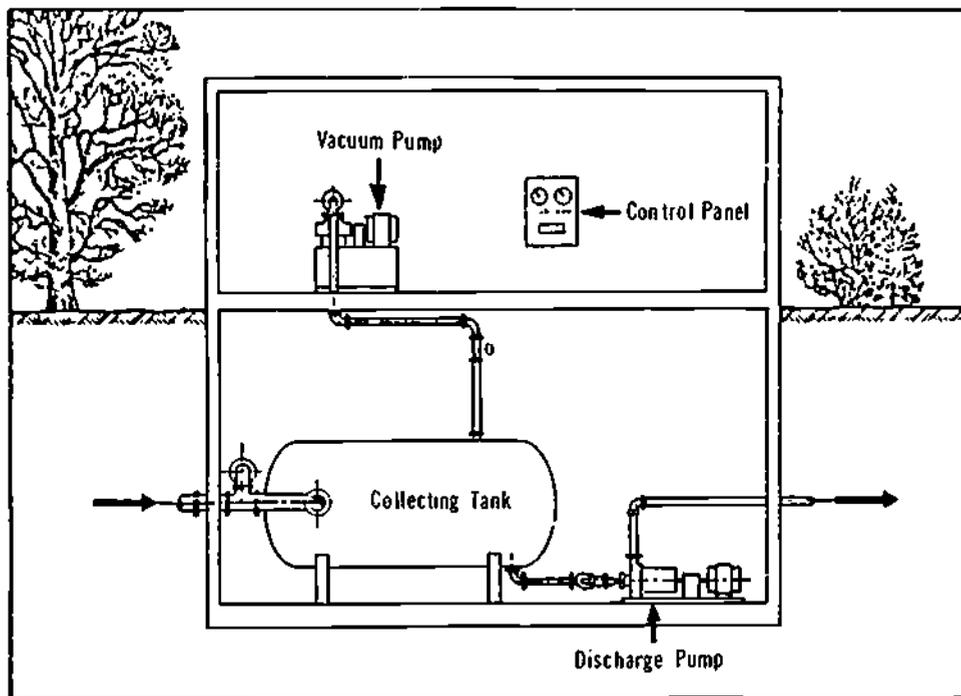

Figure 37-36. The Collecting Station
- The collecting station, to create vacuum and to receive and discharge sewage (Figure 37-36).
107. The vacuum network transports sewage from various interface units to the central collecting station. (See Figure 37-36.)
108. A central collecting station, which may serve an area of up to 8 km in diameter, houses a vacuum pump(s) to maintain vacuum, a collecting tank(s) to collect sewage from the vacuum piping network, and a discharge pump(s) to transfer sewage to a treatment plant, gravity sewer, or force main. (See Figure 37-36.)